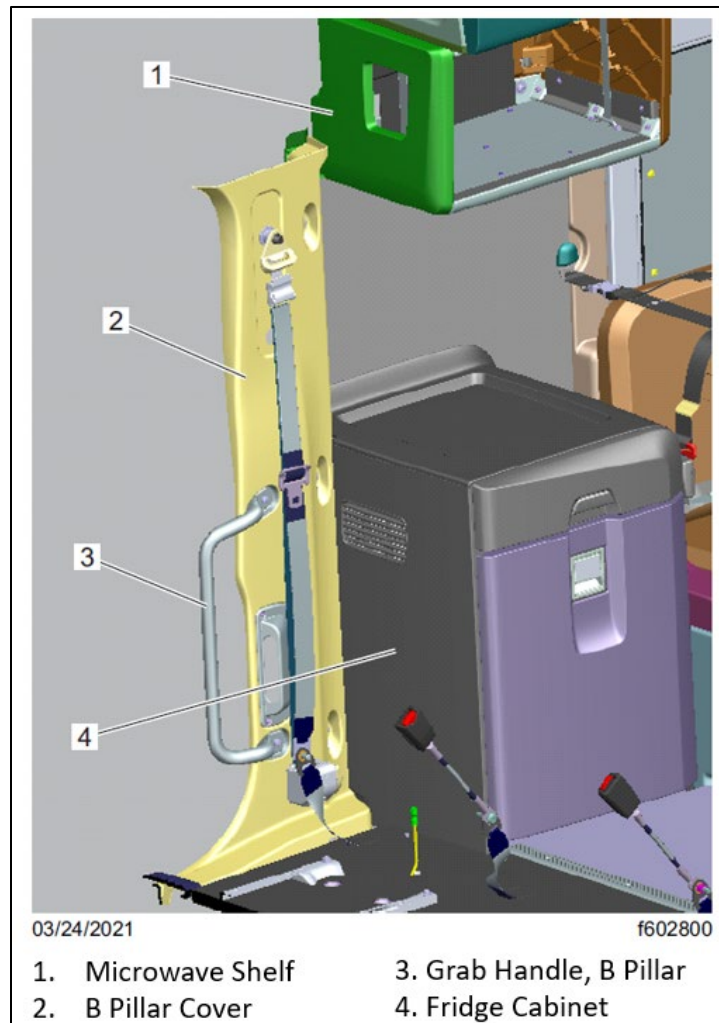

Fig. 34, B Pillar, Microwave Shelf, and Refrigerator Cabinet Location
2. If equipped with a refrigerator, follow the steps below to remove the refrigerator, and the refrigerator cabinet to access the B pillar. See Fig. 34.
3. See Fig. 34. At the RH side B pillar, remove the grab handle, seat belt mounting, and pillar covers. For instructions on removal of seat belt assembly, refer to **Section 91.01** of the *New Cascadia™ Workshop Manual*.